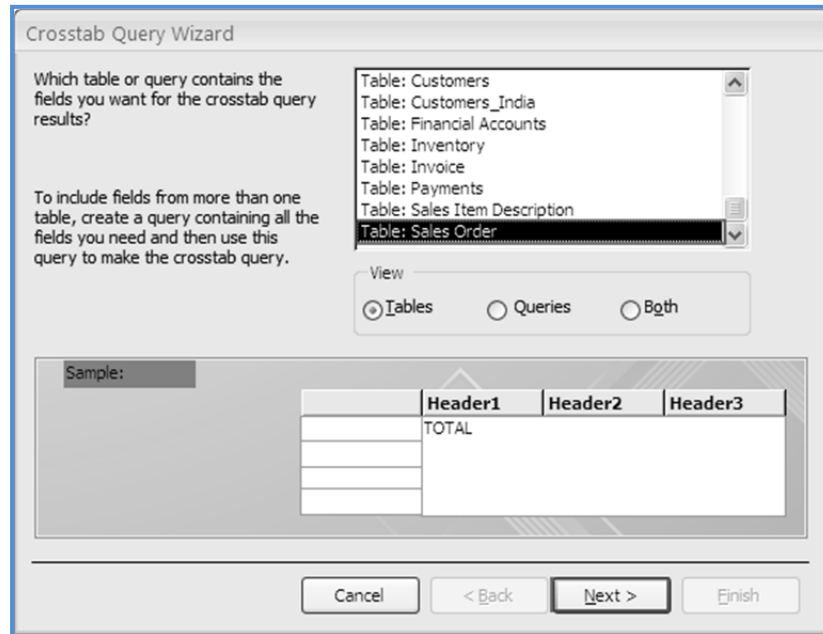

Fig. 1.2.41: Select Table Sales Order
3. The **Crosstab Query Wizard** appears. Select the table *Sales Order* and click **Next** as shown in Fig. 1.2.41.